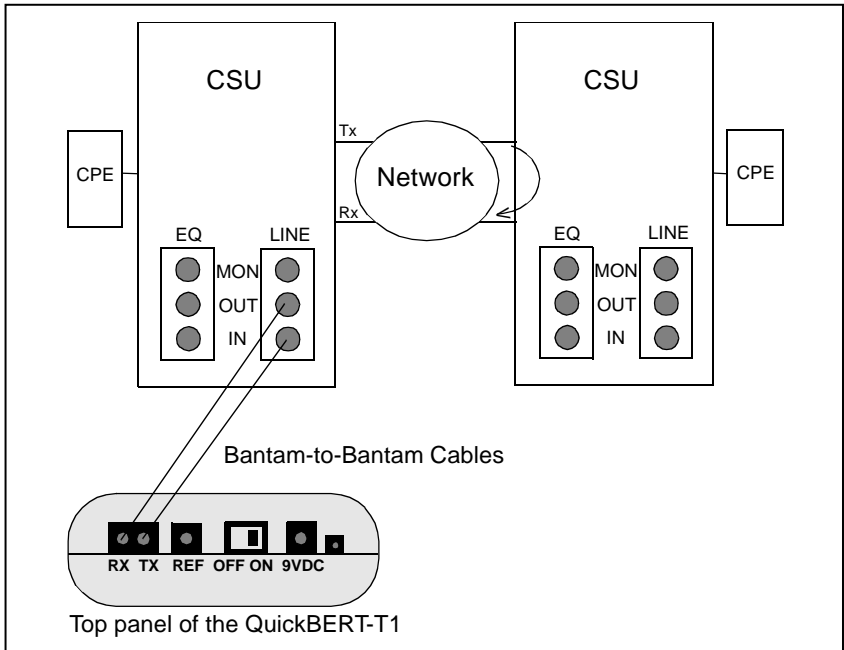

Figure 3-3. Performing an Out-of-Service BERT
- a. Test to a loop at the distant end (CSU, NIU, HDSL, or “hardwired”). See Figure 3-3 for an illustration of this setup.